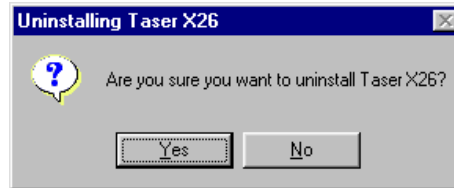
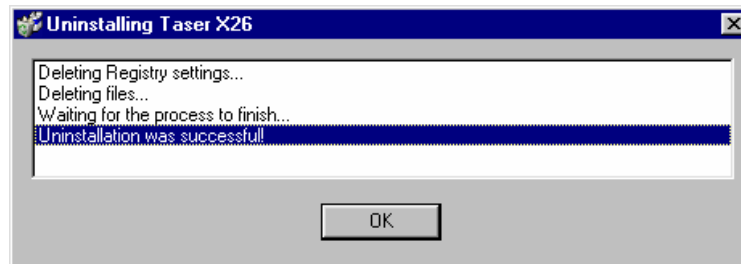

Figure 38
Figure 39
9. Click **Yes** on the **Uninstalling Taser X26** confirmation panel (Figure 38) and click **OK** when the uninstall is finished (Figure 39).